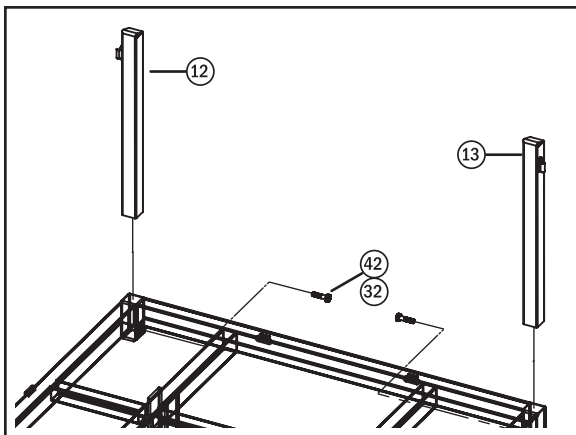

Fig. 15
Step 17: Install the Bed Stakes. Install the Left and Right Bed Stakes (12 & 13) with the latch catch on the same side as the wheels and as shown in Fig. 15. Use two M10 x 40 Bolts with two M10 Nuts (32) and install the bolts into the two threaded holes on the Bed. Tighten these Bolts enough to prevent the stakes from coming out, then tighten the nuts to prevent the bolts from loosening.